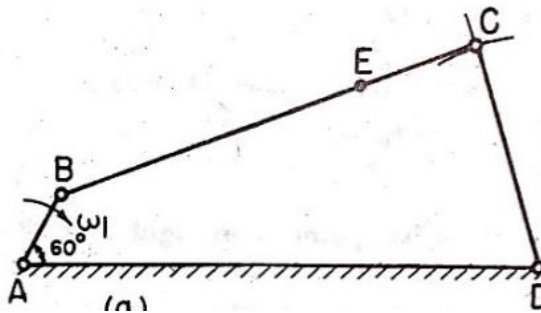

Fig. 2b
- b) A pin jointed 4-bar linkage shown in Fig. 2b, is having dimensions AB = 0.5m, BC = 3m, DC = 1.5m, AD = 3.5m and BE = 2.25m. The link AB revolves at 20 rpm and angle BAD = 60°. Find; (i) angular velocities of links CD & BC and (ii) Linear velocity of point E. 14